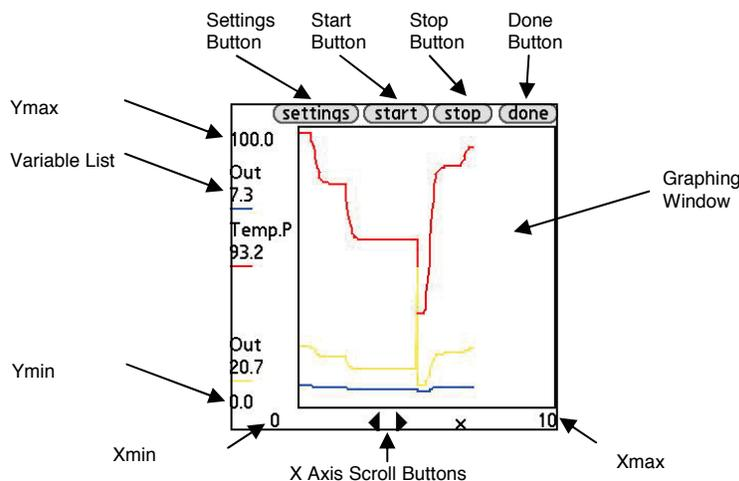

Fig.14 - Graphing Screen
5. Select the "Log Now" button repeatedly as desired (Figure 14).
Once the graphing variables have been chosen and the "Graph" button has been selected, the graphing will proceed. An example of the graphing screen can be seen in Figure 14 along with descriptions of its various fields.